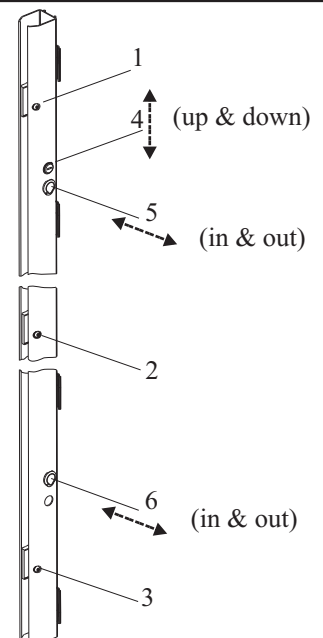

Fig. 19
4.2 Insert large side panel into wall profile glass clamps (see Fig.9) with the soft seal onto the tray and the fitted corner bracket to the front. Move the panel in or out until the corner bracket is spaced equal distance from the front edge of the tray as it is from the side face of the tray. Ensure the panel is vertical then fully tighten the 3 glass clamps screws using 2.5mm allen key supplied (see Fig 19). If after adjusting for vertical, the corner bracket is not seated firmly on the tray, loosen grub screws and tap the bracket down onto the tray (caution - do not exceed 5mm adjustment on this bracket) Pack between bracket and tray if you require more adjustment.
Now tighten the glass clamps in the wall profile using the 2.5mm allen key provided. To identify the glass clamps in the wall profile see Fig. 19 The design makes it impossible to break the glass by over tightening because the screw heads will tighten against the wall profiles first. So do ensure these are fully tight
14 FINAL CHECK AND ADJUSTMENT, Open and close the sliding door and check that it runs smoothly. If not, check that the frame is vertical (in to out) and not twisted. If necessary the frame can be adjusted using the lateral adjustment screws see Fig. 19 in guide to adjustments stage 8